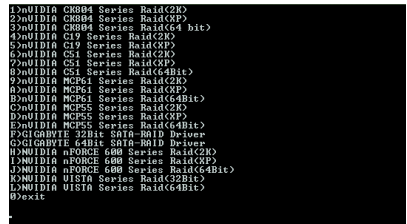
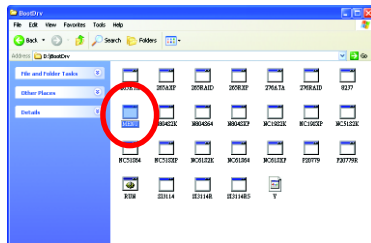

Figure 11
Figure 12
Step 2: When the controller menu (Figure 11) appears, remove the startup disk and insert the blank formatted disk. Select the controller driver by pressing the corresponding letter from the menu. For example, from the menu in Figure 11, press A to select (A) nVIDIA MCP61 Series Raid (XP) if you wish to install Windows XP (32-bit). Your system will then automatically zip and transfer this driver file to the floppy disk. Press 0 to exit when finished.
Use an alternative system and insert the GIGABYTE motherboard driver CD-ROM. From the CD-ROM drive folder, double click the **MENU.exe** file in the **BootDrv** folder (Figure 12). A command prompt window will open similar to that in Figure 11.